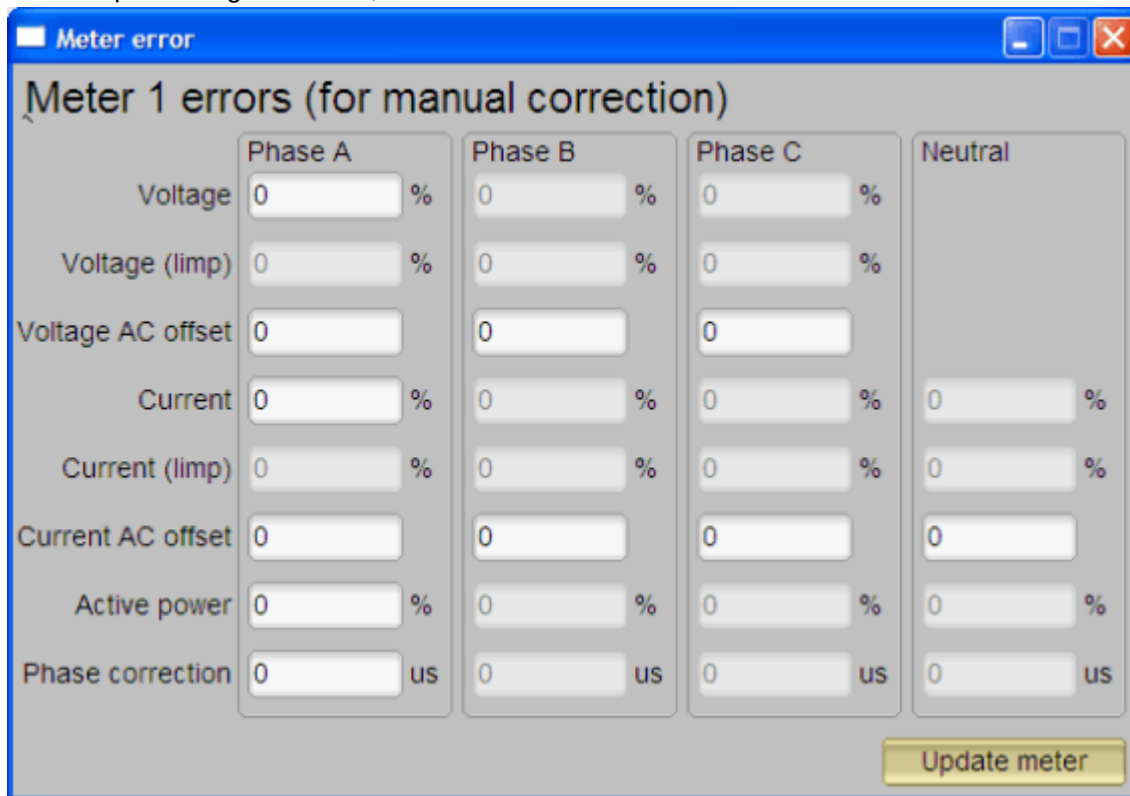

Figure 6-5. Meter Error Window
- Click on the Manual Call button, which brings up the Meter Error window (see Figure 6-5). In this window, the adjustment to the calibration factor values could be done by entering the percentage error of the reading from the EVM compare to the reading from the reference meter. For more details on the technique and procedure of performing calibration, see Section 3.
Put the percentage error in the corresponding box in the Meter Error Window (see Figure 6-5). Click Update meter and the updated calibration values will be calculated and written to the EVM. The corresponding values will be reflected in the Meter Calibration Factor Window.